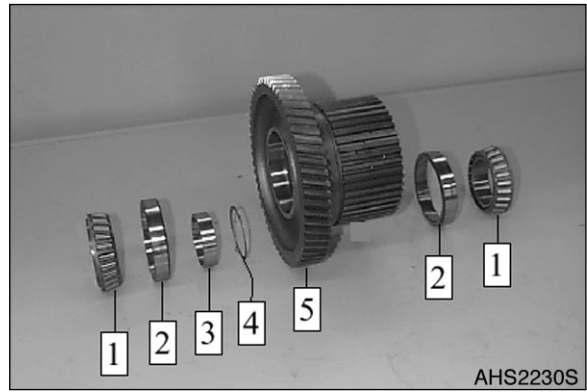
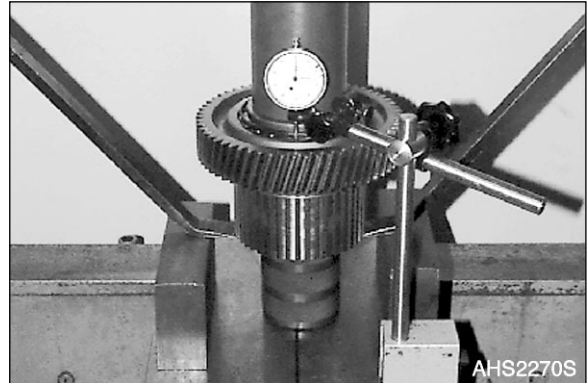

Figure 263
Figure 267
2. Pre-assemble and install Spur gear KV (Figure 263 - Figure 271):
A. Figure 263, shows the components of spur gear KV.
NOTE: *In case of deviations from the required axial play, correct with corresponding shim (Item 4/ Figure 263).*
- G. Line up shim (see Figure 263 -Figure 267) and ring.